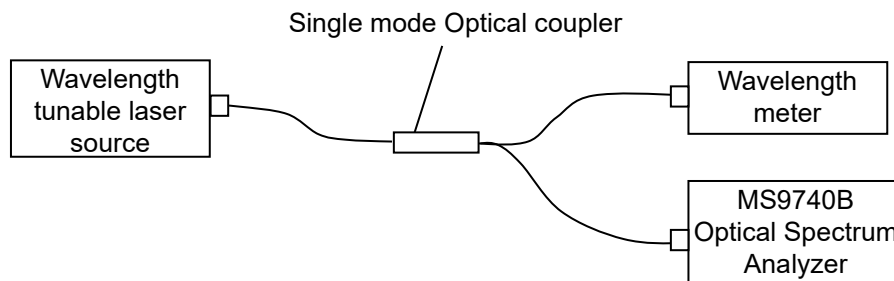

Figure 7.2.1-1 Wavelength Accuracy Test Setup
1. Setup and connect as shown in Figure 7.2.1-1.